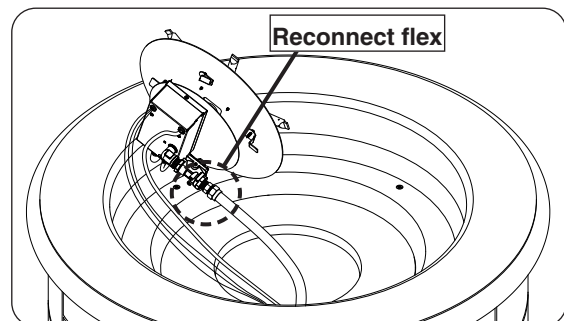

Fig. 28-4 Reconnect flex connector
1. Reconnect flex line coming from the valve to the burner assembly (see Fig. 28-4).